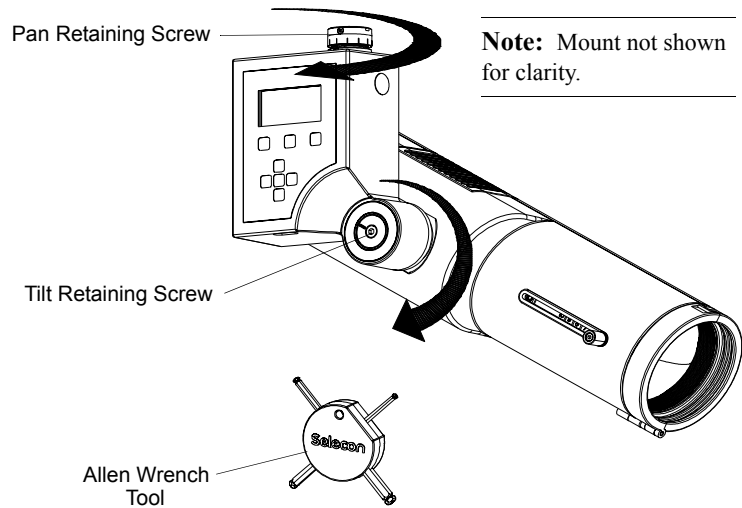

Figure 1: PL1 Luminaire Pan & Tilt Adjustment
- Step 1. At either pan or tilt, locate Allen head screw as illustrated in **Figure 1**.